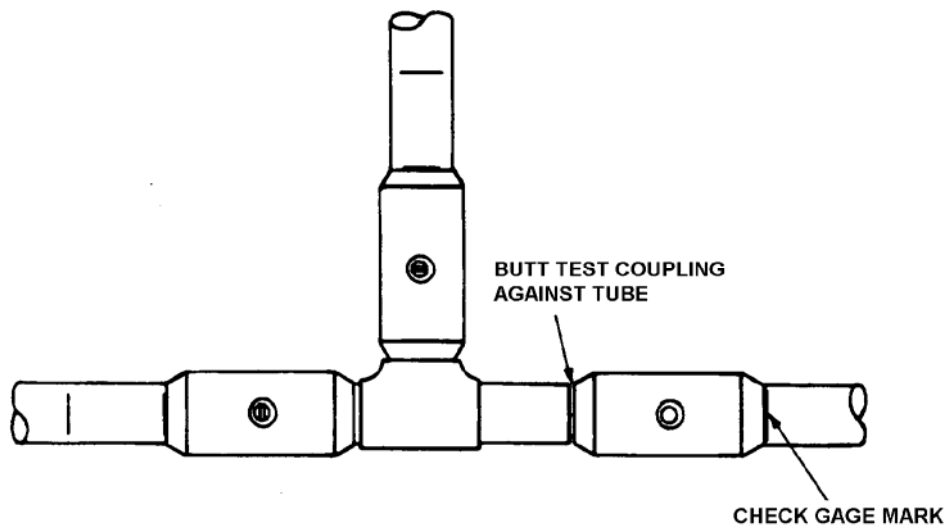

Figure 12. Locating Check Gage Marks on Tee Assembly
g. Reposition the test coupling so that it is flush with the tube end. Draw a second line at the opposite end of the coupling for a check gage mark (Figure 12).